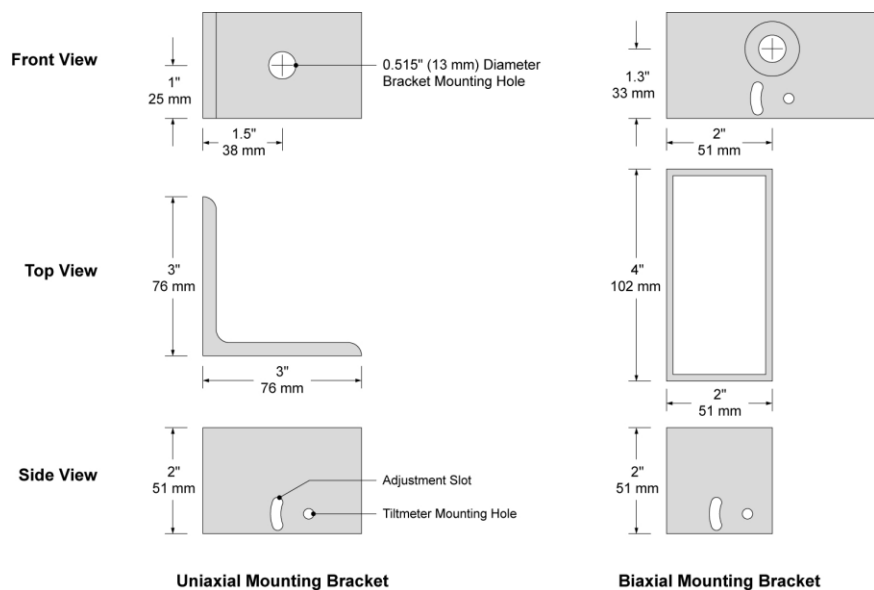

Figure 3 - Tiltmeter Mounting Brackets
Two mounting brackets are available for the Model 6350. One is designed for uniaxial tilt measurements the other for biaxial. See Figure 3. Also, two types of bracket mounting hardware are available. The uniaxial tiltmeter installation instructions describe the use of the epoxied or grouted anchor rod while the biaxial instructions describe the drop-in anchor.
1. The first step is to install the uniaxial mounting bracket (see Figure 3) which is designed for mounting on vertical walls.
1. The first step is to install the biaxial mounting bracket (see Figure 3) which is designed for mounting on vertical walls.